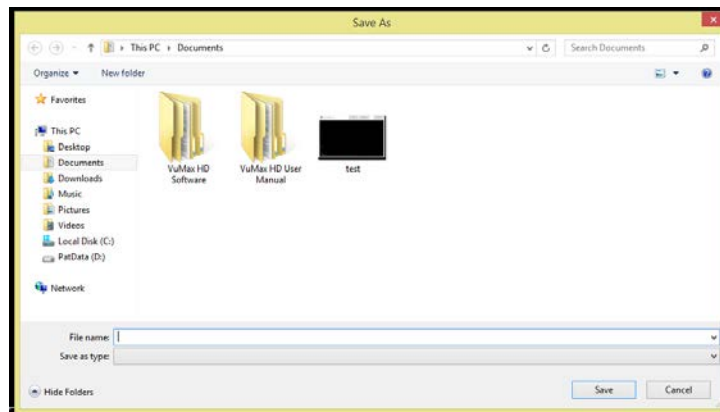

Fig. 11 – 'Save-As' Window
⑦ **Save As:** Upon selecting the 'Save Screenshot' button, a Windows 'Save As' screen (Fig. 11) will be displayed. Navigate through the folders to select a destination folder for saving the patient's saved A-Scan. Note that a 'File Name' is required for saving the document.